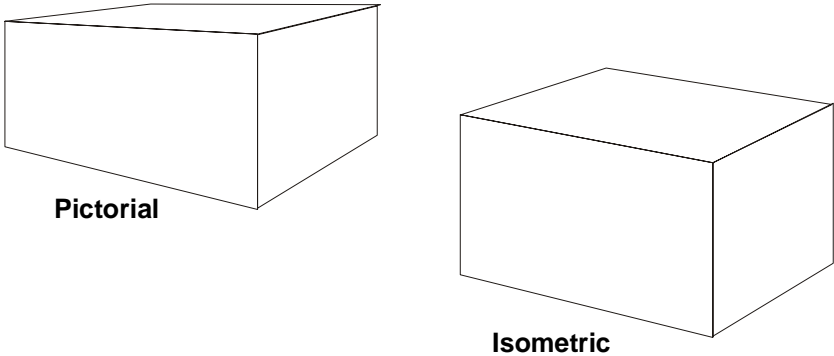

Figure 3-22. A comparison between an isometric drawing and a pictorial drawing.
- (3) Draw in the object lines, the lines that will define the plane.
- 4. An isometric drawing is a three-dimensional representation of an object that does not use perspective. It is used to convey technical information of an object. All isometric drawings are based on a 120-degree axis system. The object in an isometric drawing is position so that the front, top, and right side appear as shown in Figure 3-22. All dimensional values for the axis or lines parallel to the axis are taken directly from the orthographic views. This includes the basic height, width, and length of the object.